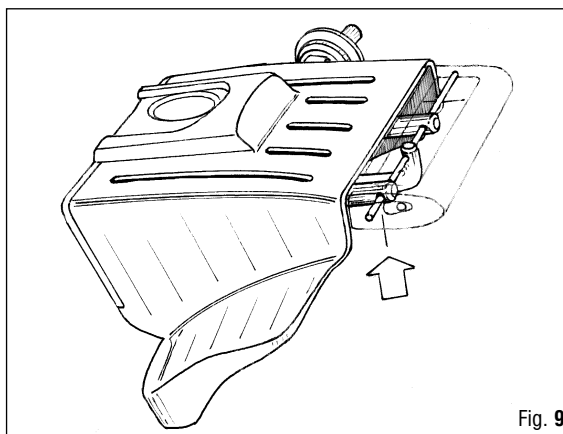

Fig. 9
18. Connect the buckle (31) with the tank retaining band (35) to the stems of the two pistons (23) and to the stainless steel rack (29), inserting the stainless steel rod (33) into its holes (See Fig. 9).
BEFORE PROCEEDING WITH THE OPERATION DESCRIBED IN STEP - 21 - CHECK THAT THE HOLE IN BUCKLE (31) WHICH ACCOMMODATES THE STAINLESS STEEL ROD (33) IS COMPLETELY CLEAR OF THE SHELL (32). (SEE FIG. 9).